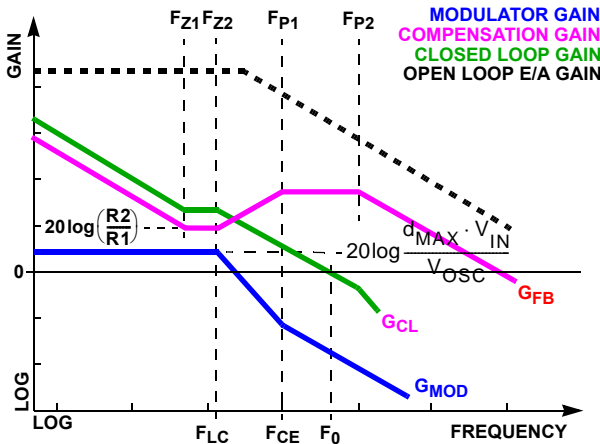

FIGURE 27. ASYMPTOTIC BODE PLOT OF CONVERTER GAIN
Figure 27 shows an asymptotic plot of the DC/DC converter's gain vs frequency. The actual Modulator Gain has a high gain peak dependent on the quality factor (Q) of the output filter, which is not shown. Using the previously mentioned guidelines should yield a compensation gain similar to the curve plotted. The open loop error amplifier gain bounds the compensation gain. The closed loop gain, G_{CL} , is constructed on the log-log graph of Figure 27 by adding the modulator gain, G_{MOD} (in dB), to the feedback compensation gain, G_{FB} (in dB). This is equivalent to multiplying the modulator transfer function and the compensation transfer function and then plotting the resulting gain.